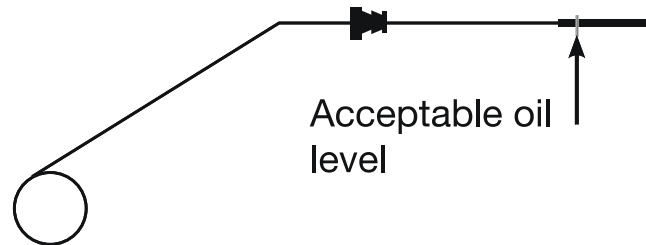

Figure 14 - Checking Oil Level
- **Acceptable Oil Level** – Oil is visible on the flat part of the end of the stick up to the first notch. (see Figure 14).
8. Continue to add oil until the oil is at the correct level. See Figure 14.